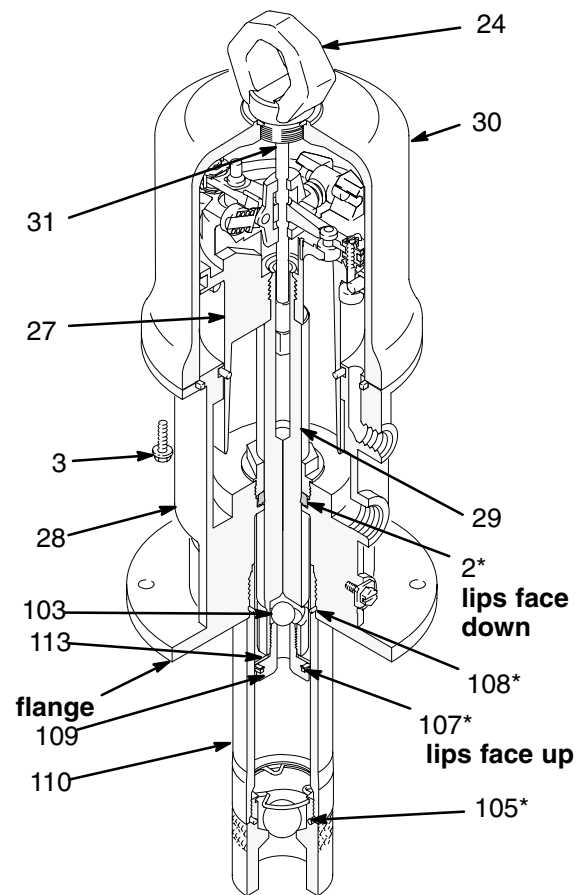
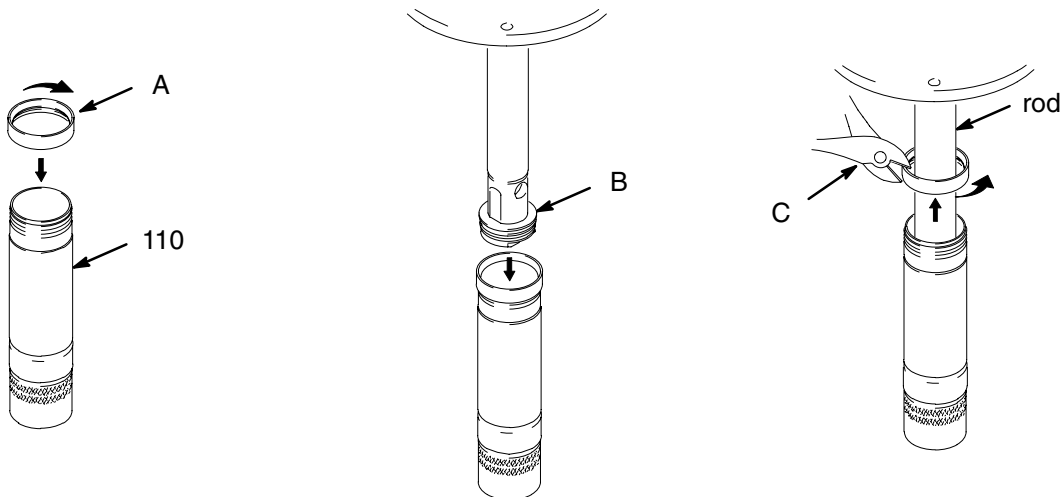

Fig. 3
Fig. 5
3. Disconnect the hoses, remove the pump from its mounting, and clamp the air motor base (28) in a vise horizontally by closing the vise jaws on the flange.
4. Use a strap wrench on the displacement pump cylinder (110) to screw it out of the air motor base (28). See Fig. 3.
5. Remove the piston/valve seat (109) from the displacement rod (29) with wrenches or with the vise and a wrench.
6. Remove the piston ball (103), seal (107*), and seal retainer washer (113).
7. Remove the air motor base from the vise, and place the displacement rod (29) flats in the vise with the air motor up.
8. Loosen the lift ring (24). Pull up the lift ring, grip the trip rod (31) with the padded pliers, and screw the lift ring off of the rod.
15. Grip the trip rod (31) with padded pliers, screw the lift ring (24) onto the trip rod, push the lift ring down, and screw it into the top of the cylinder.
16. Install the seal (107*) with the lips up, and place the seal retainer washer (113) on the piston/valve seat (109). *Make sure the lips of the seal face up.* See Fig. 3.
17. Place the piston ball (103) in the displacement
18. Clean the threads of the piston/valve seat (109), Apply Loctite® to the threads, and thread the assembly from Step 16 onto the displacement rod (29).
19. Clamp the flats of the piston/valve seat (109) in a vise, and torque the displacement rod (29) to the piston valve seat to 45 to 55 ft-lb (61 to 75 N.m).
20. Clamp the air motor base (28) in a vise horizontally by closing the vise jaws on the flange
21. Thread piston assembly tool (A) (included in repair kit 238751) onto the threads of the displacement pump cylinder (110). See Fig. 5.
22. Insert the piston assembly (B) into the displacement pump cylinder.
23. Unscrew the piston assembly tool from the displacement pump cylinder. Clip the piston assembly tool with a diagonal cutter (C), and discard it.
24. Use a strap wrench to screw the displacement pump cylinder (110) to the air motor base (28). See Fig. 3.